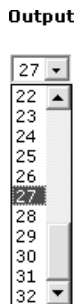

Figure 98. Output Selection Drop Box
1. **To select an individual output to mute or unmute**, click the **Output** drop box. A drop down scroll box appears (see figure 98).